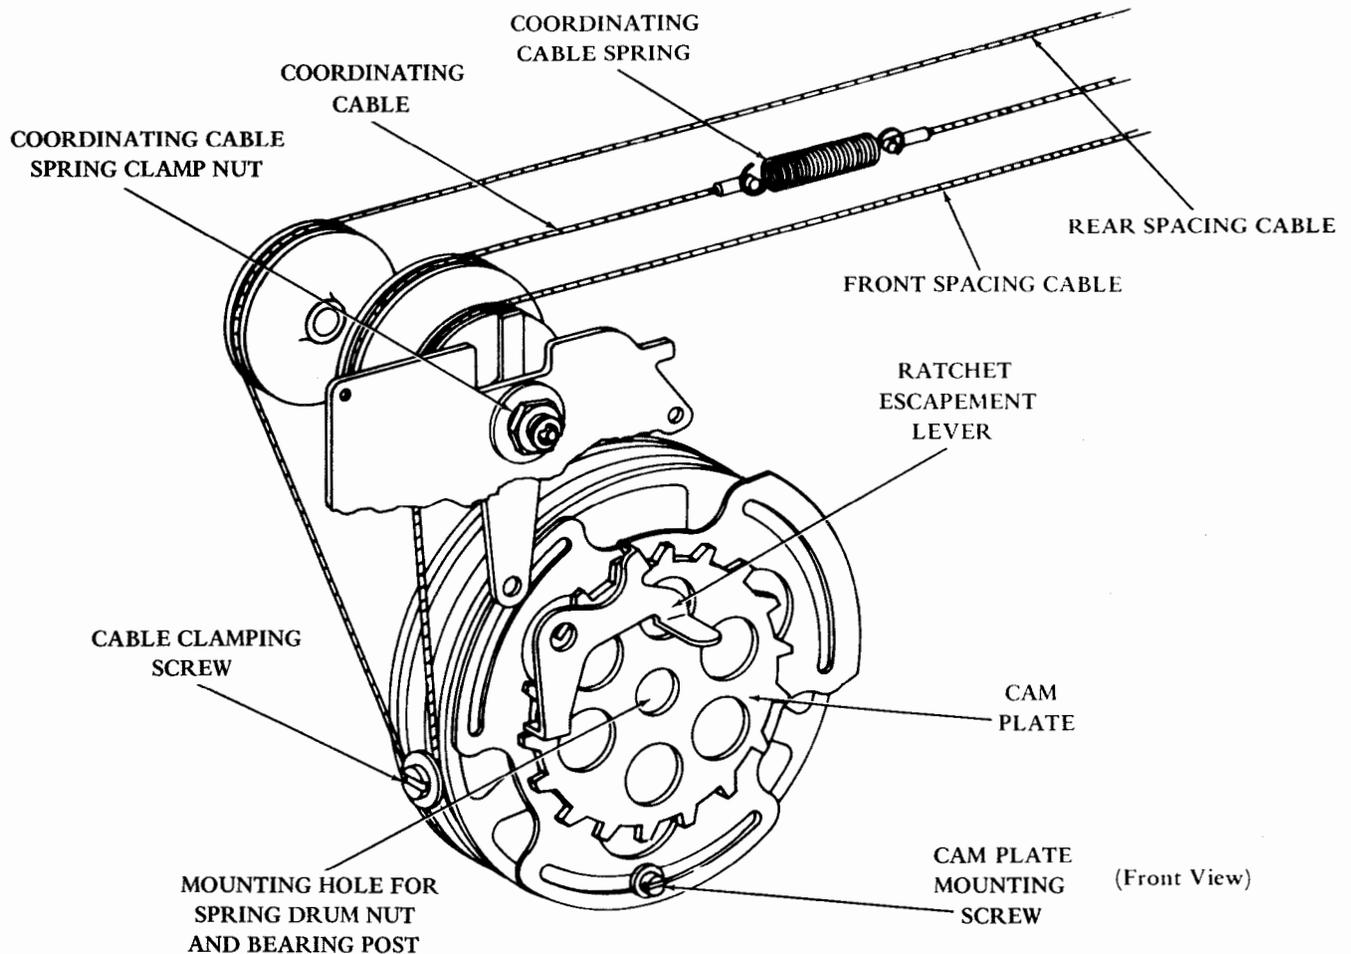

Figure 15 - Spring Drum and Cables
2.38 To remove the spacing cable (Figures 15 and 16) from the front plate, proceed as follows.
2.39 To replace the spacing cable (Figures 15 and 16), reverse the procedure used in removal. Check the following adjustments:
2.40 To remove the coordinating cable from the front plate, proceed as follows (Figures 15 and 16).
2.41 To replace the coordinating cable (Figures 15 and 16), reverse the procedure used in removal.